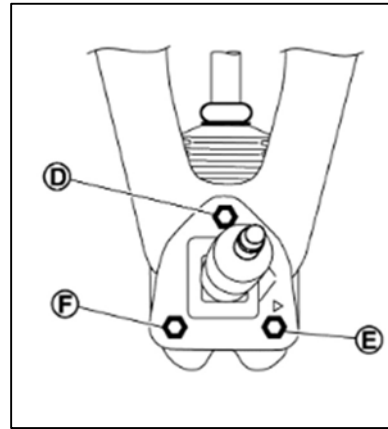

Figure 118
- Temporarily tighten the front bolt (D) shown in Figure 118